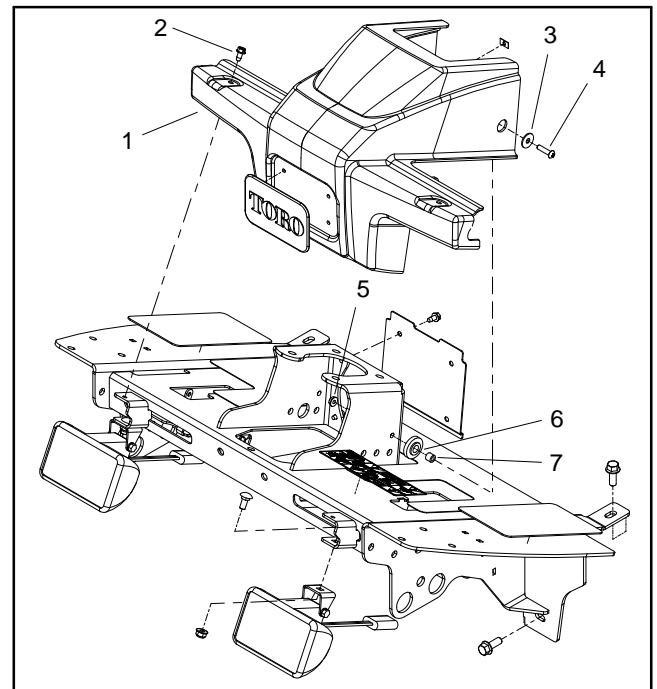
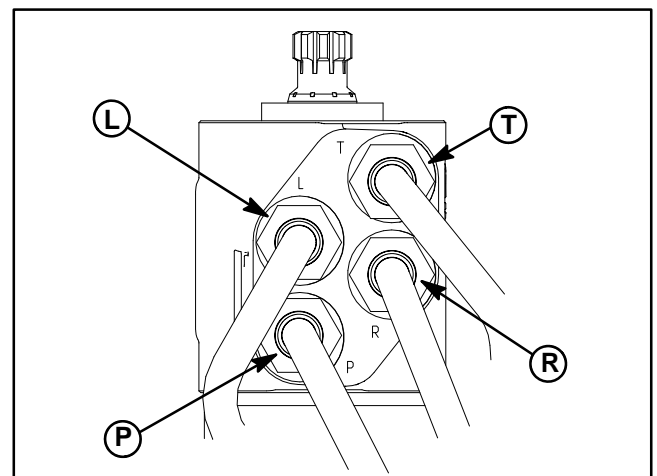

Figure 91
Figure 92
2. Remove fasteners that secure shroud to front of machine (Fig. 91). Remove shroud from machine to allow access to steering control valve. Locate and retrieve two (2) rubber bushings and spacers.
4. Loosen and remove four (4) flange head screws and flange nuts that secure steering column brace (item 13) to machine. Remove brace.
6. Label all hydraulic connections for assembly purposes. Note port designations on steering control valve (Fig. 92). Thoroughly clean hydraulic connections prior to loosening hydraulic lines.
3. Slide steering control valve shaft into steering column universal joint. Position control valve with ports toward front of machine. Secure steering control valve to steering column with four (4) socket head screws. Hand tighten screws in a crossing pattern and then torque screws again in a crossing pattern from **7 to 10 ft-lb (9.5 to 13.5 N-m)**.
4. Position steering column assembly to machine. Secure steering column in place with two (2) flange head screws and flange nuts at rear two mounting holes.
7. Position steering column brace (item 13) to machine and secure with four (4) flange head screws and flange nuts.
9. Place rubber bushings and spacers into holes of shroud (Fig. 91). Position shroud in place and secure with removed fasteners.